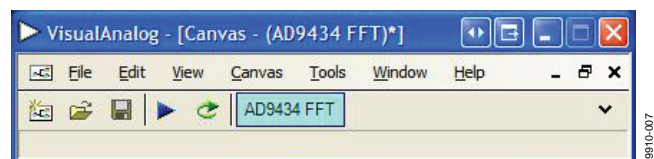

Figure 7. VisualAnalog Window Toolbar, Collapsed Display
4. Detailed instructions for changing the features and capture settings can be found in the AN-905 Application Note, *VisualAnalog Converter Evaluation Tool Version 1.0 User Manual*. After the changes are made to the capture settings, click **Collapse Display** (see Figure 7).